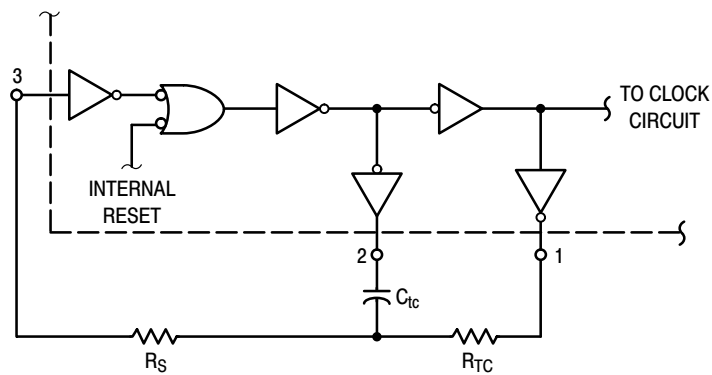

Figure 3. Oscillator Circuit Using RC Configuration
6. When using the on chip oscillator the total supply current (in μAdc) becomes: I_T = I_D + 2 C_{tc} V_{DD} f × 10⁻³ where I_D is in μA, C_{tc} is in pF, V_{DD} in Volts DC, and f in kHz. (see Fig. 3) Dissipation during power-on with automatic reset enabled is typically 50 μA @ V_{DD} = 10 Vdc.
The RC oscillator as shown in Figure 3 will oscillate with a frequency determined by the external RC network i.e.,